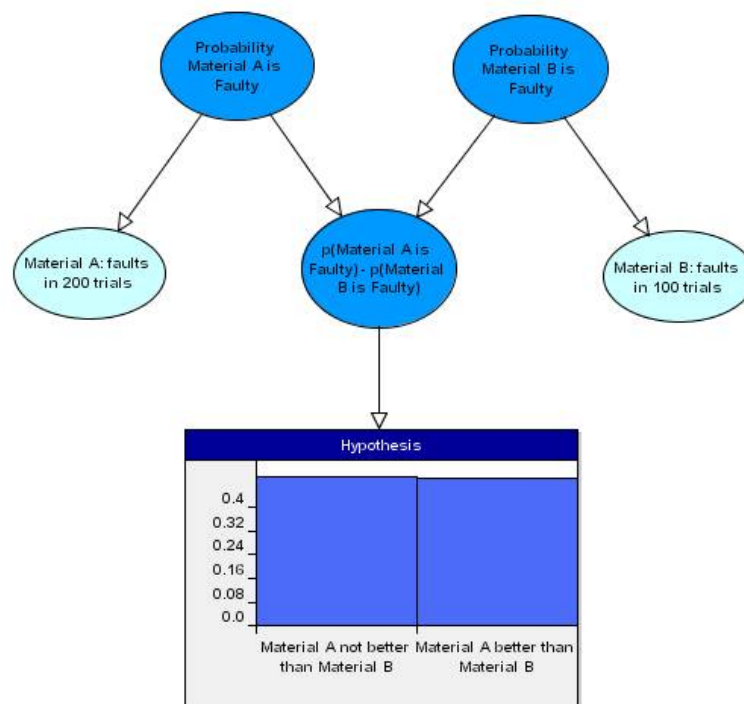

Figure 10 Complete *Hypothesis Testing* model
22. The model is now complete and should look similar to the one in Figure 10.